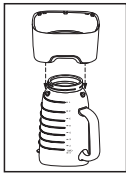

Fig. 3
- a. Turn jar upside down and place the collar on the small/bottom opening of the jar ensuring the notches in the collar fit into the four tabs on the jar (Fig. 3).